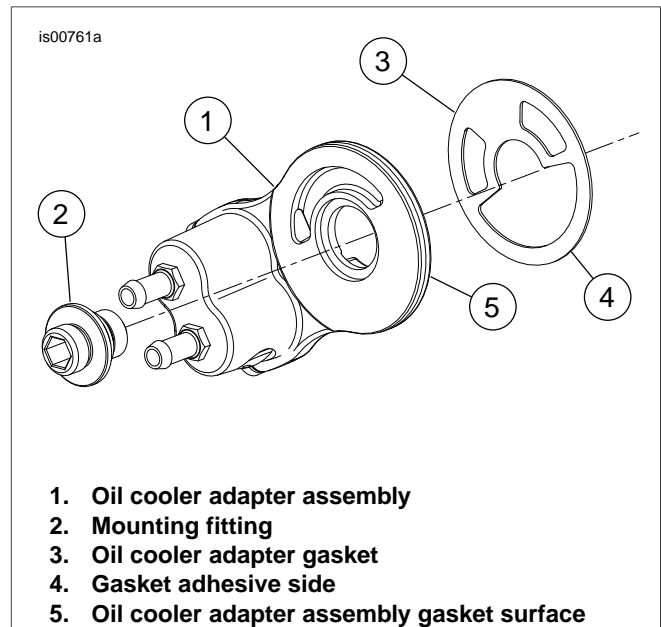

Figure 2. Install Oil Adapter
2. See Figure 2. From the kit, install the oil adapter gasket (3) onto the oil filter adapter assembly (1). The oil adapter assembly flanges should be aligned so they are installed into the oil adapter gasket cutout as shown.
3. See Figure 2. **If your kit contains a gasket with a "light colored backing"**: Peel backing off of gasket (4) and apply adhesive side to oil cooler adapter assembly (5). Ensure gasket is centered on adapter assembly. Ensure adapter locates properly in the mounting surface. Ensure the raised lip of the mounting fitting faces the adapter assembly. Tighten mounting fitting to 12-16 ft-lbs (16.3-21.7 Nm).
4. See Figure 2. **If your kit contains a standard gasket without a "light colored backing"**: Install the oil cooler adapter assembly and gasket onto the oil filter mounting surface of the engine with the mounting fitting (2). Ensure adapter locates properly in the mounting surface. Ensure the raised lip of the mounting fitting faces the adapter assembly. Tighten mounting fitting to 12-16 ft-lbs (16.3-21.7 Nm).